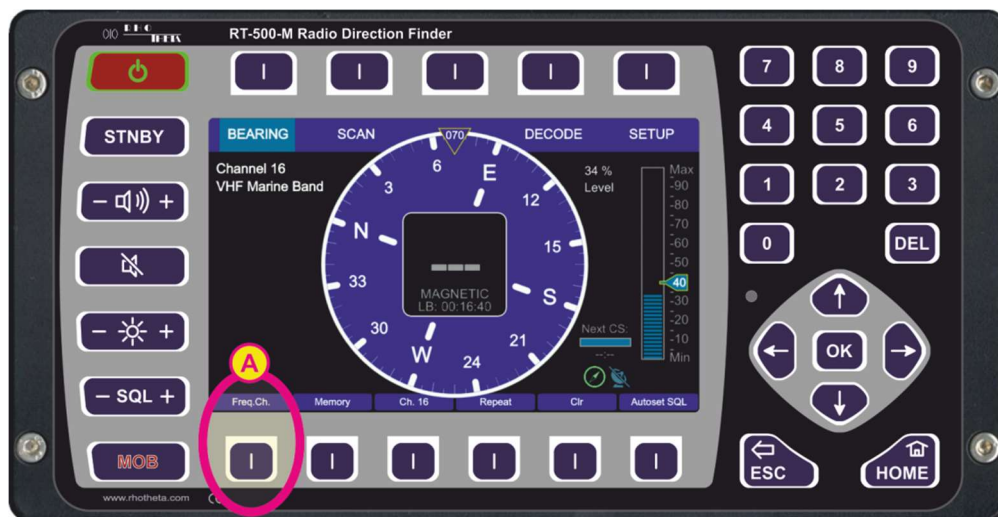

Figure 4. Start page (bearing page)
6. As a final result, the bearing page is loaded (s. Figure 4). This is the first page that is displayed when the system is started for the first time. The next time the device is restarted, the last page that was used before the restart will be loaded after the start screen. To turn off the DCU hold the ON/OFF button pressed for about 2-3 seconds.
- Push the hotkey “Freq.Ch.” (s. field “A”, Figure 4).